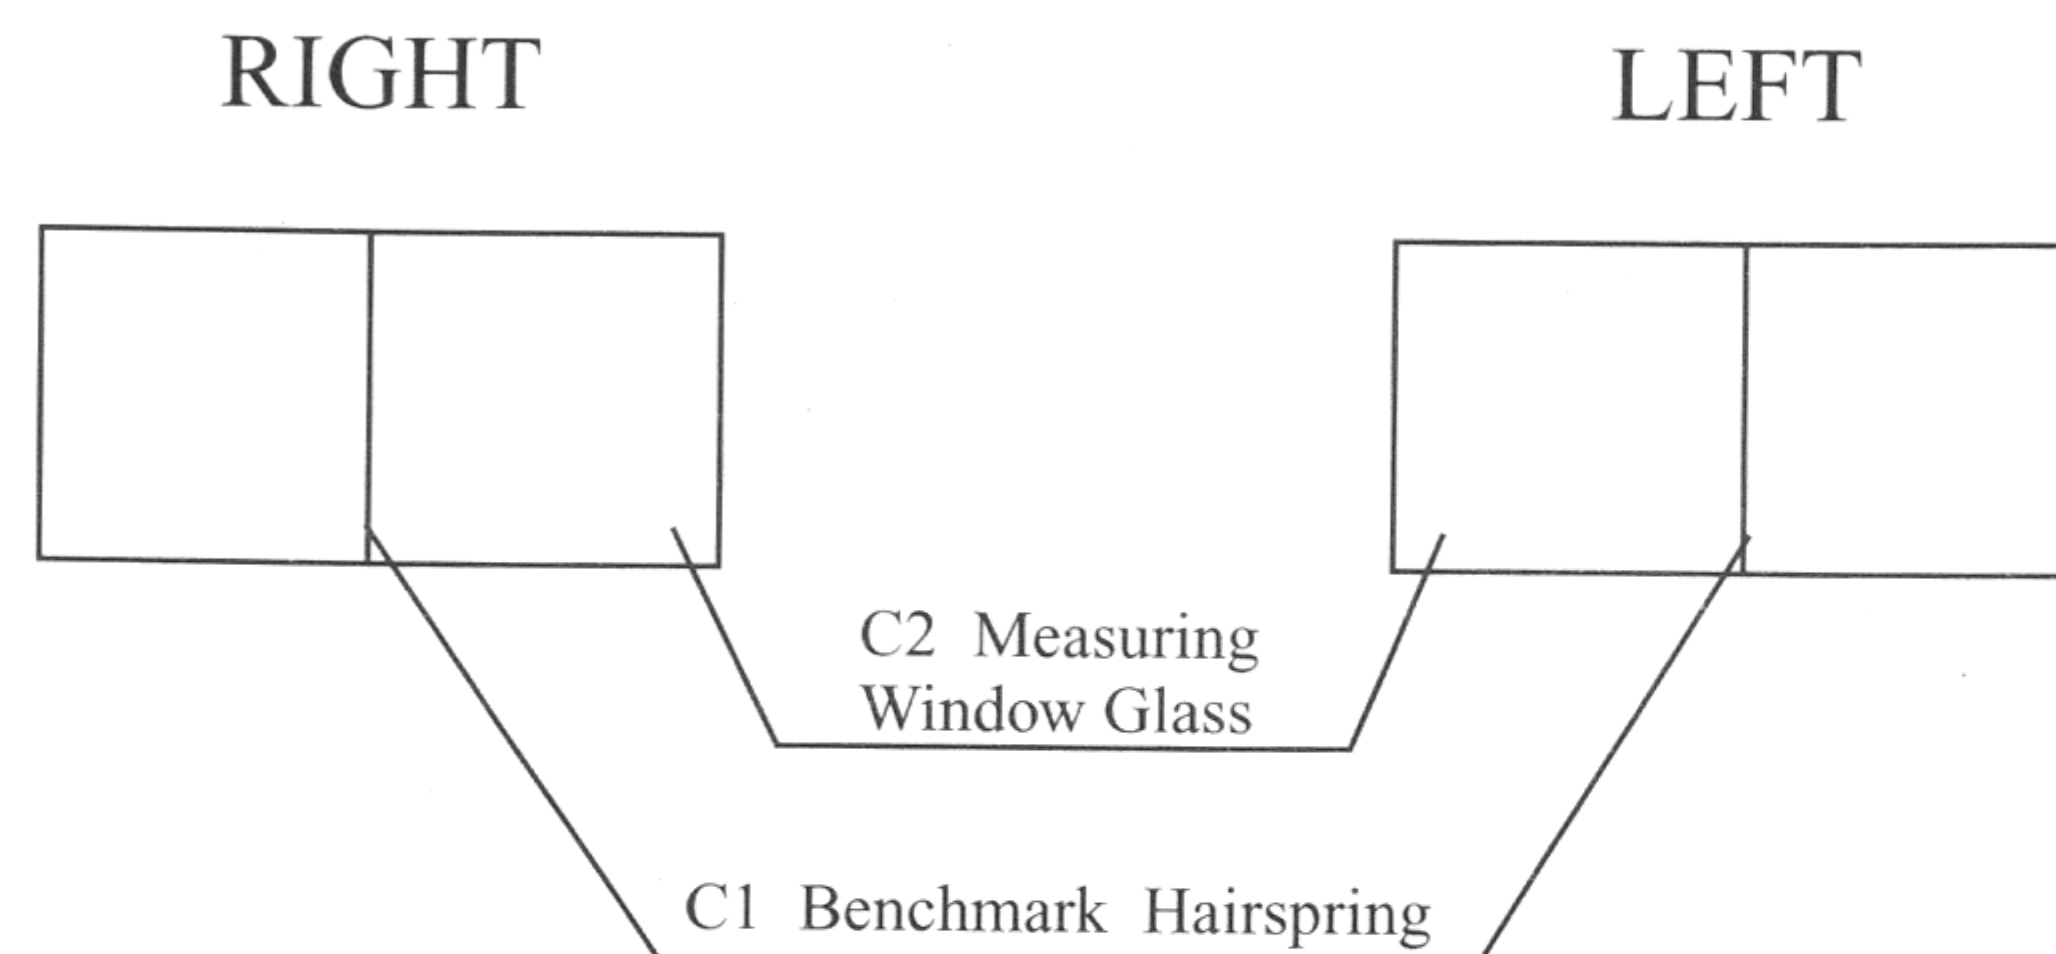

Fig.4
3.3 Viewing from the Measuring Window (as shown in Fig.4)